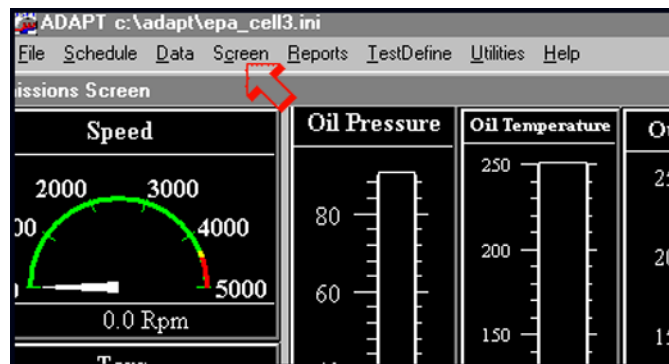
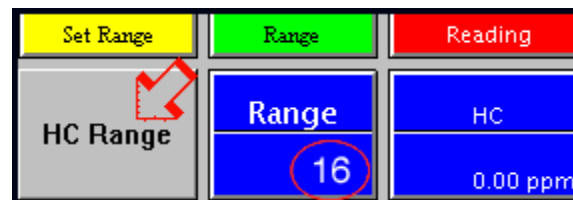

Figure 9
Figure 10
- 111 Click on "Screen" from the menu bar. See the arrow in Figure 9. Select "Emissions screen" from the menu options. If "Emissions screen" is not an available choice, select "More Screens" from the menu and choose "Emissions screen" from the next menu.
- 112 Click on the "HC Range" button, see the arrow in Figure 10, until "16" appears under "Range". See the circle in Figure 9.